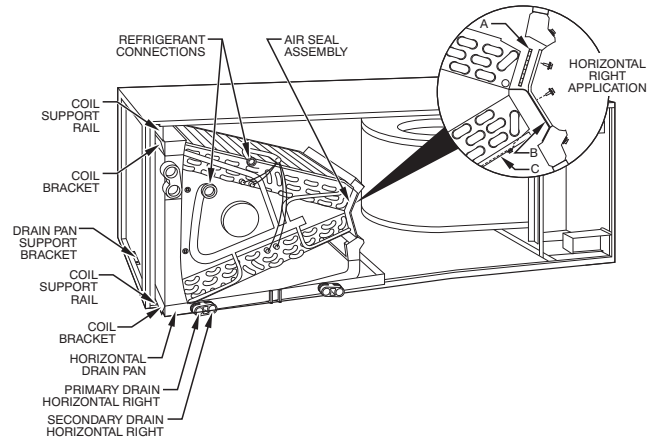

Fig. 6 - Conversion for Horizontal Right Applications Using A-Coil (FB4C only)
1. Remove blower and coil access panels. (See Fig. 6.)
- a. Remove air-seal assembly from coil by removing 4 screws. (See Fig. 6.)